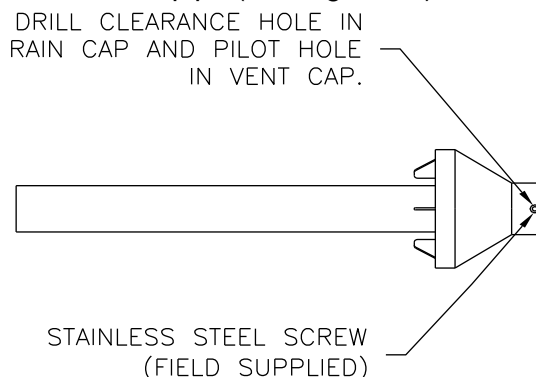

Figure 22 - Rain Cap to Small Vent Pipe Assembly
- b. Cement rain cap to smaller diameter pipe (see Figure 22).
- b. Cement rain cap to smaller diameter kit pipe (see Figure 22).